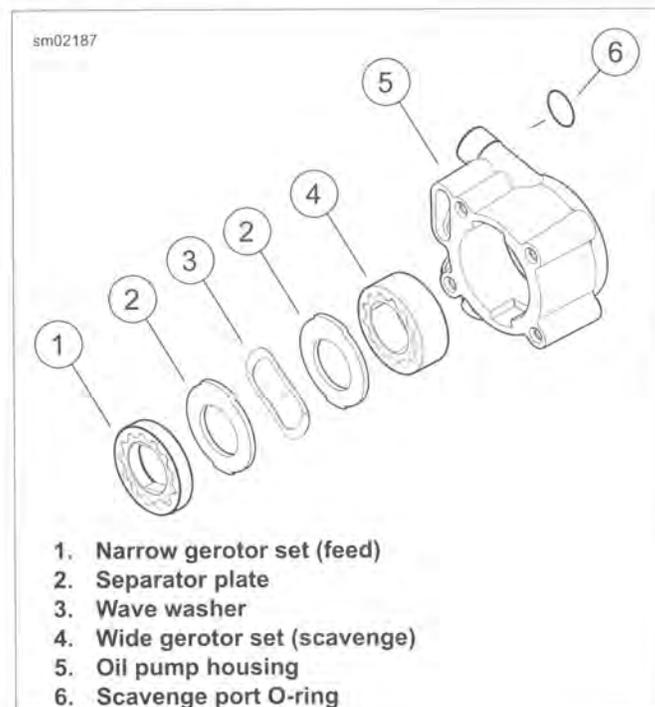

Figure 3-117. Assembling Oil Pump
8. See Figure 3-117. Assemble the oil pump.
1. See Figure 3-117. Apply a very thin film of SCREAMIN' EAGLE ASSEMBLY LUBE to **new** scavenge port stub O-ring (6). Install O-ring on scavenge port stub of oil pump housing.
2. Slide oil pump housing (5) onto crankshaft while fitting O-ring on scavenge port stub into crankcase bore.
3. Assemble the wide gerotor set (4). Install on the crankshaft until it bottoms in the oil pump housing.
4. Install inside separator plate (2) on the crankshaft until it contacts the wide gerotor set (4). Install wave washer (3) and outside separator plate (2).
5. Assemble the narrow gerotor set (1). Install on the crankshaft until it contacts the outside separator plate (2).